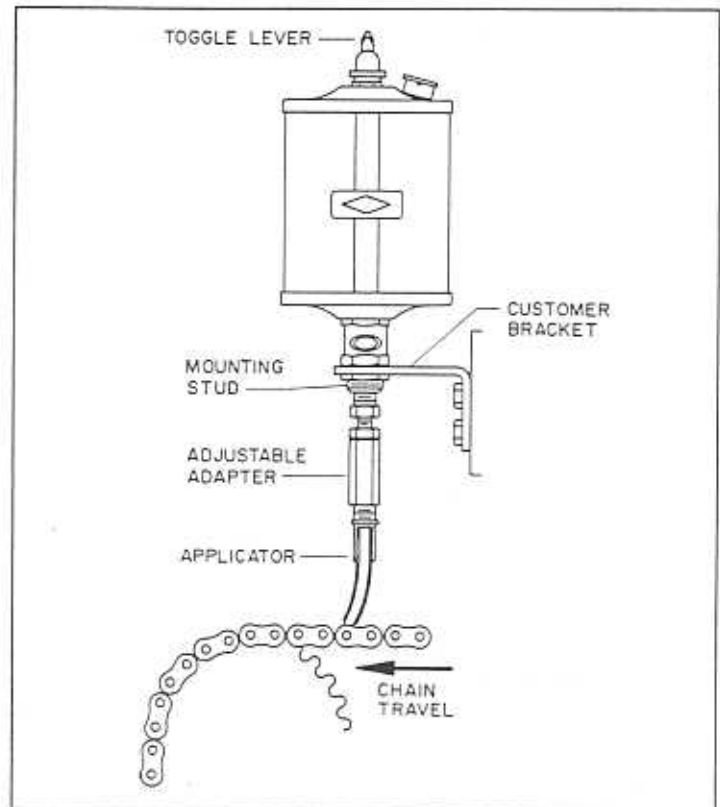

Fig. 1
4. Fig. 1 shows an example of a Type "CB" Trico Chain Oiler properly installed. Adjustable adapter permits take up for applicator wear. Arrow on sprocket indicates chain travel.